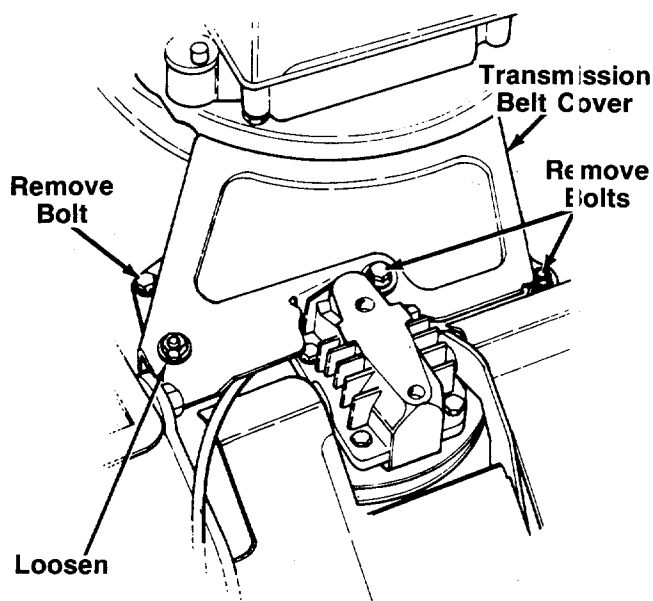

FIGURE 23.
4. Remove the transmission belt cover by removing three bolts. Loosen the transmission belt guard. See figure 23.